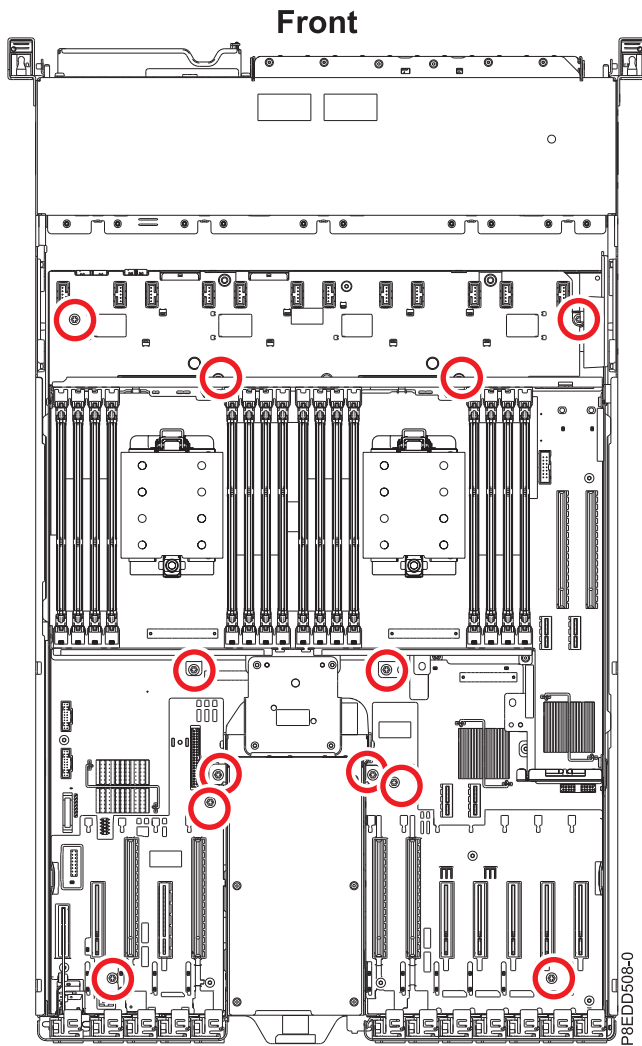

Figure 118. System backplane screw locations
- a. Using a Phillips screwdriver, unscrew and remove 12 screws (A) that mount the backplane to the chassis as shown in Figure 118 on page 120.